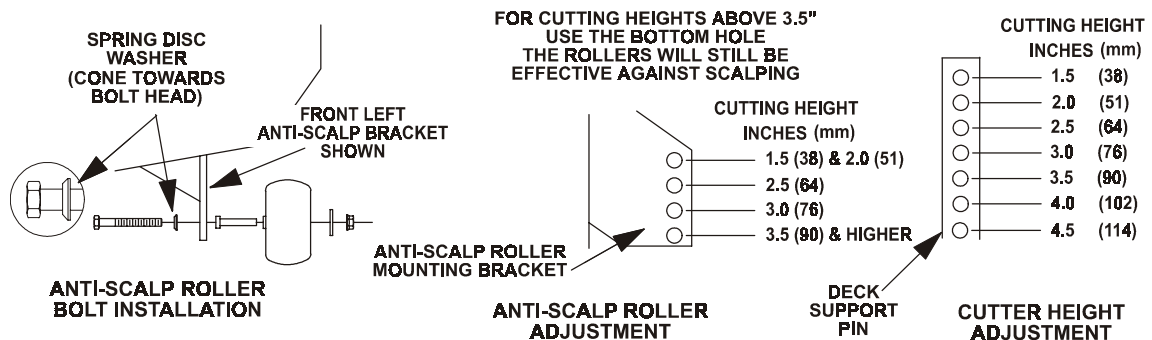

FIG 11
- b) Install hairpin clips in the holes shown on sketch below for the desired cutting height (See Figure 11).
- c) Adjust anti-scalp rollers For Normal Operating Conditions. Place rollers in one of the positions shown in Fig. 11. Rollers will maintain 3/4 in. (19 mm) clearance to the ground to minimize gouging and roller wear or damage. **For Maximum Deck Flotation**, place rollers one hole position lower. Rollers should maintain 1/4 in. (6.4 mm) minimum clearance to ground. **Do Not** adjust rollers to support the deck. Be sure roller bolts and nuts are installed with the spring disc washer between head of the bolt and mounting bracket. **Torque to 40-45 ft-lbs., or loss of roller may result.**
- d) When operating in extremely rough conditions it may be necessary to position the anti-scalp rollers one or two holes higher than described in "b" to prevent damage to the rollers and/or bolt failure (See Figure 11).